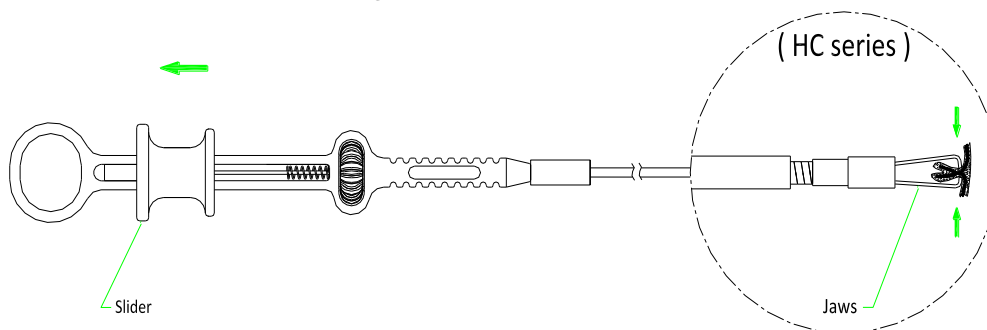

Figure 1.6: Close the Clip
1.6. To close the clip Jaws on the desired location, moving the slider toward the thumb ring beyond the 1st tactile resistance point, as shown in Figure 1.6.